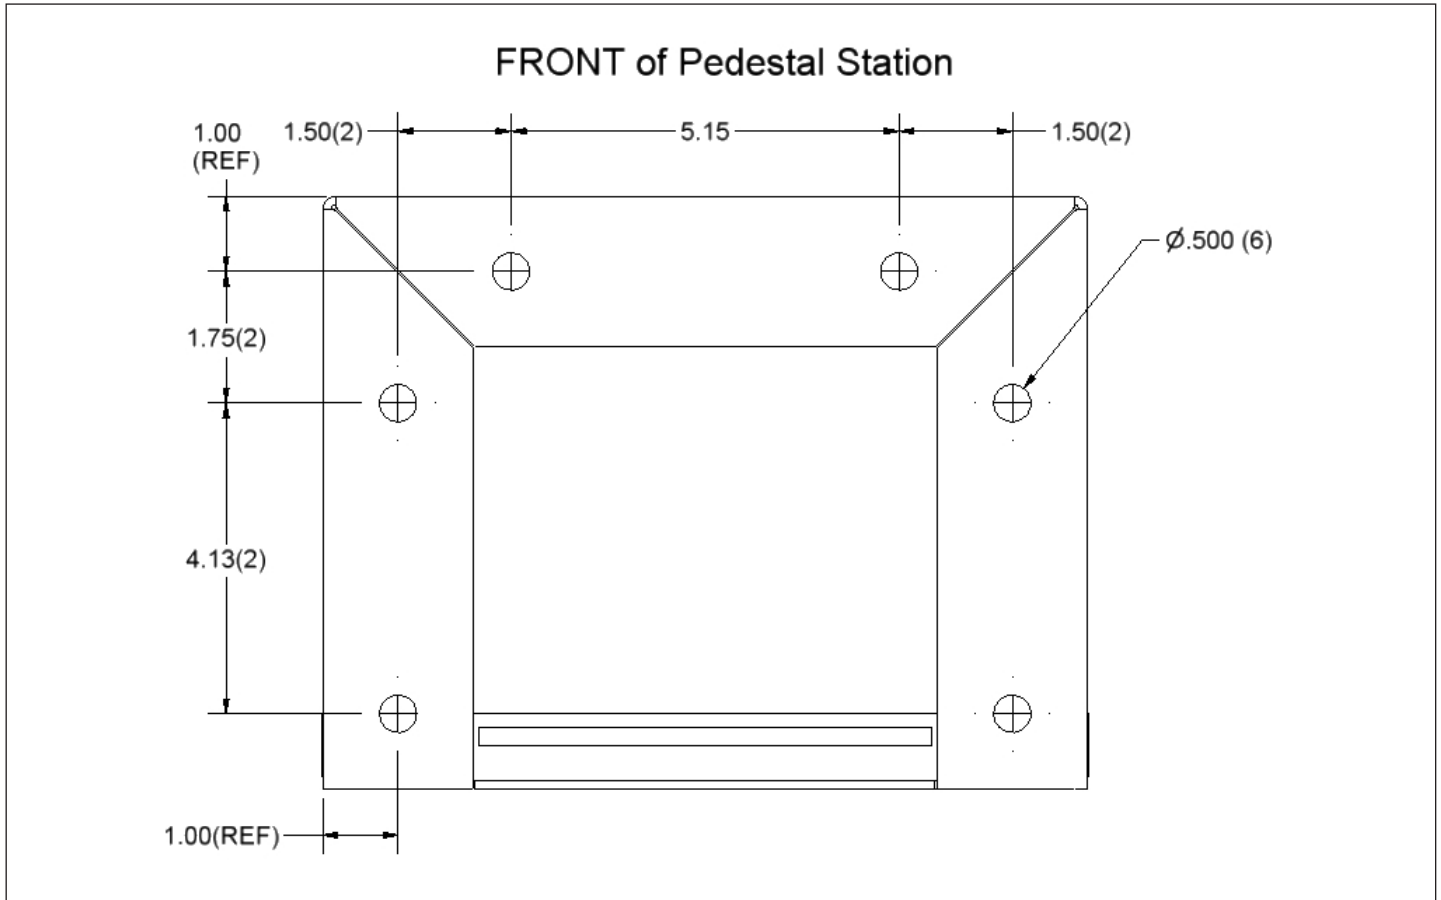

Figure 8. Base Detail Pedestal for EVSE.
- Step 3:** The hole pattern for the base of the pedestal mount is shown below in **Figure 8**. Use six, 3/8 UNC Grade 5 stainless bolts torqued at 50 ft-lbs for mounting base to the ground.